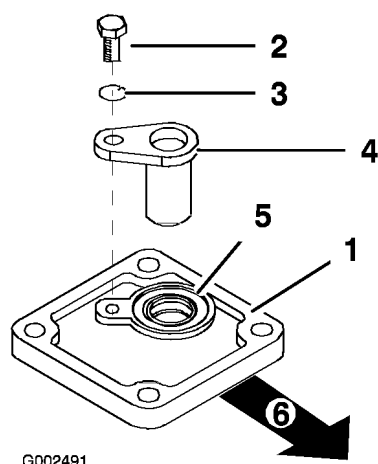

Figure 6
3. Install the new cover assembly to the transaxle using the four bolts removed in Step 1 (Figure 6). The correct orientation of the cover will have the seal facing up and positioned toward the left hand side of the vehicle.
4. Install the geartooth sensor using the screw (M6 x 1.00 x 12) and spring washer (M6) as shown in Figure 6.